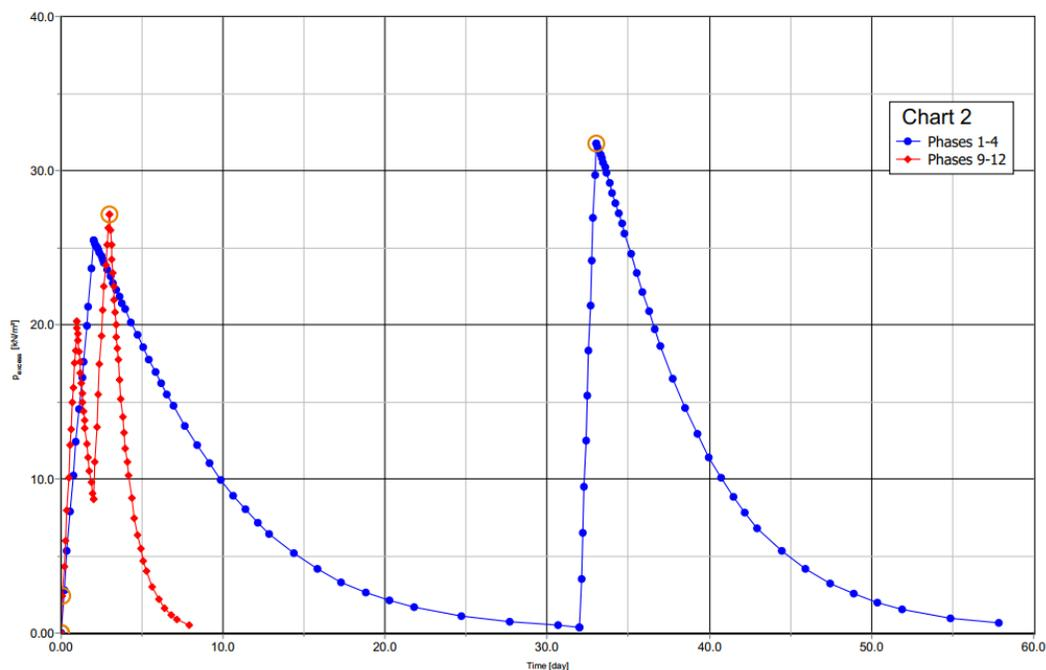

Figure 103: Effect of drains
11. Click **OK** to close the **Settings** window. Figure 103 (on page 128) gives a clear view of the effect of drains in the time required for the excess pore pressures to dissipate.